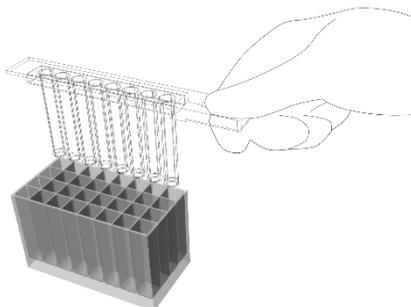

Figure 22. Mixing of content in **column 4** using the rod cover only.
21. Using only the rod cover, mix the contents of **column 4**, by slowly lifting the rod cover to the top of the solution and returning the rod cover to the bottom of the wells 10 times for 4 minutes (Figure 22).